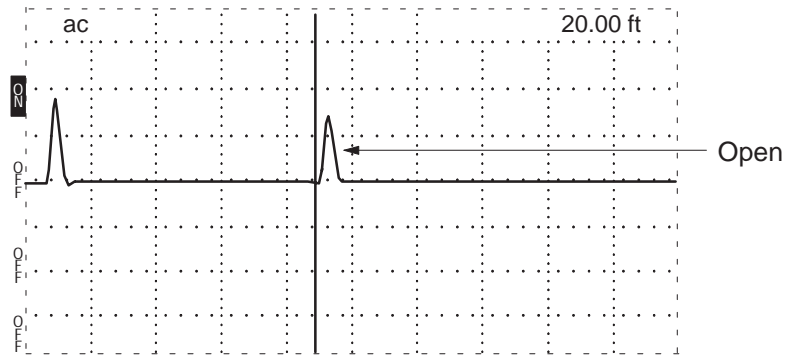

Figure 1-10: Open in the Cable
3. To find the distance to the fault or end of the cable, turn the $\langle \triangleright \rangle$ POSITION control until the cursor rests on the leading edge of the rising or falling reflected pulse (see Figure 1-10). Read the distance in the distance window in the upper right corner of the display.